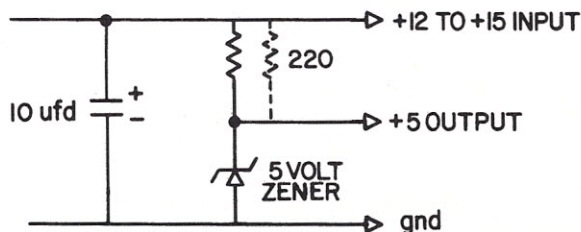

Fig. 1. Five volt power supply.
Table 2. Music system high-level language. You can get an idea of how it is used by comparing the coded portion of Fig. 1 with the music. The placement of the notes on the staff is numbered in hex plus or minus from middle C, which is zero (0). C above middle C would be +7. See Fig. 1, measure 5.
the "Music System" turns out to be much easier than it first appears. Table 2 is a list of some of the symbols used. Once the symbols for the values of different notes have been memorized, it is very simple to move across the page coding one voice at a time. The system can handle three voices (notes) at once and 32 notes per voice per measure. Fig. 1 is an example of a few measures that have been coded.
Fig. 1. The music and the coding. Lines beginning with / are remarks and are stored and displayed but not compiled. Line 0040 indicates the key of F# and says make a Quarter note equal to 50 iterations of a loop in the tone generator. More or less determines the tempo. 0050 defines the beginning of part A. 0060 is measure 1. It reads—Voice 1 (V1)—Treble Clef (*)—Quarter note 6 (Q6)—Quarter note 7 (Q7)—Eighth note 8 (I8)—Eighth note 9 (I9)—dotted Quarter note 8 (Q.8). V2, V3 and 0070 to 0090 read the same way. 0100 indicates that part B will be a repeat of part A. 0110 will be the beginning of part C. Once coding is learned, many of the symbols that are shown can be left out since note value once set will remain the same until reset. As an example: Q6Q7I8I9Q.8 could be written Q67I89Q.8.
The schematics shown in Figs. 1 through 4 accomplish most of the above goals at a low cost. The circuitry is fairly simple and has worked reliably for several months.